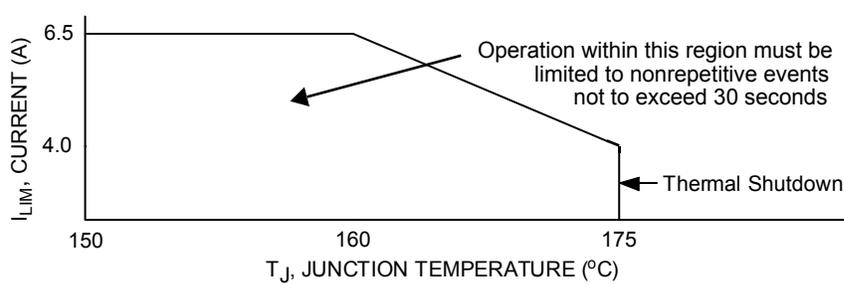
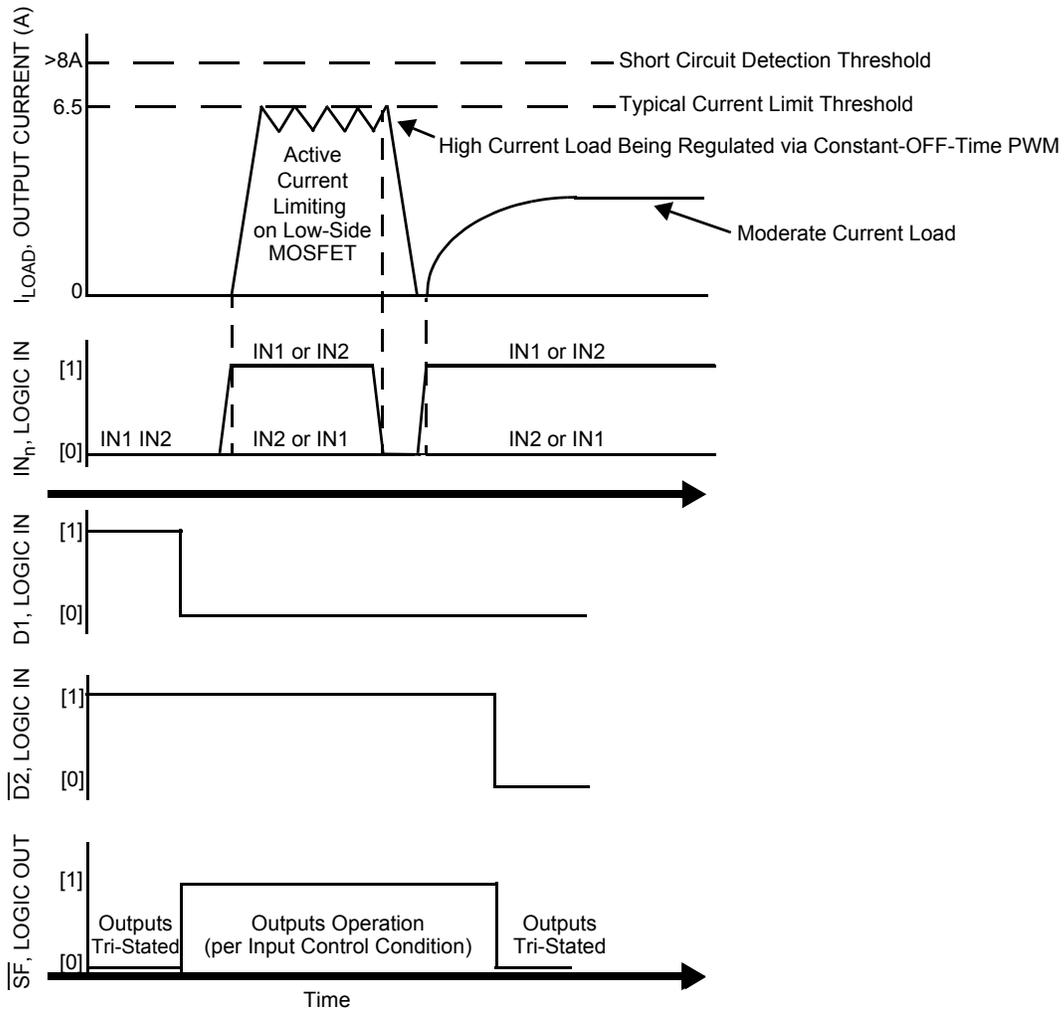

Figure 5. Active Current Limiting Versus Temperature (Typical)
Figure 6. Operating States
27. Load currents ramping up to the current regulation threshold become limited at the  $I_{\text{LIM}}$  value. The short circuit currents possess a  $di/dt$  that ramps up to the  $I_{\text{SCH}}$  or  $I_{\text{SCL}}$  threshold during the  $I_{\text{LIM}}$  blanking time, registering as a short circuit event detection and causing the shutdown circuitry to force the output into an immediate tri-state latch-OFF. See Figures 6 and 7, page 12. Operation in Current Limit mode may cause junction temperatures to rise. Junction temperatures above  $\sim 160^\circ\text{C}$  will cause the output current limit threshold to progressively “fold back”, or decrease with temperature, until  $\sim 175^\circ\text{C}$  is reached, after which the  $T_{\text{LIM}}$  thermal latch-OFF will occur. Permissible operation within this foldback region is limited to nonrepetitive transient events of duration not to exceed 30 seconds. See Figure 5, page 11.
The current limiting threshold value is dependent upon the device junction temperature. When  $-40^{\circ}\text{C} \leq T_J \leq 160^{\circ}\text{C}$ ,  $I_{LIM}$  is between 5.2 A to 7.8 A. When  $T_J$  exceeds  $160^{\circ}\text{C}$ , the  $I_{LIM}$  current decreases linearly down to 4.0 A typical at  $175^{\circ}\text{C}$ . Above  $175^{\circ}\text{C}$  the device overtemperature circuit detects  $T_{LIM}$  and overtemperature shutdown occurs (see Figure 5, page 11). This feature allows the device to remain operational for a longer time but at a regressing output performance level at junction temperatures above  $160^{\circ}\text{C}$ .